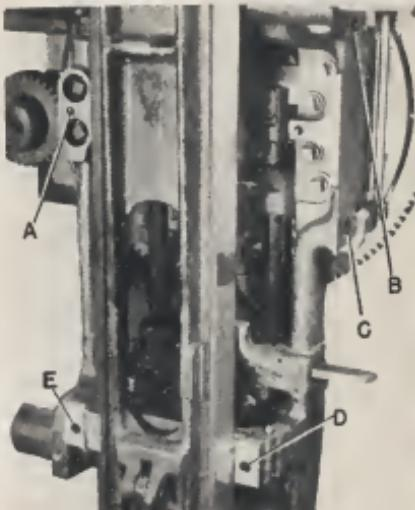

Fig. 1—Stripped machine ready for attachment of Corrector.
Note carefully the position of the lower left-hand elevator slide gib in machines where the right-hand gib is not doweled to the frame, in order not to disturb the adjustment of the elevator slide. Then remove galley, galley brackets, knife block, duplex rail recasting lever, slug stacking arm and pawl and entire knife wiper mechanism, including block and roller on elevator slide where used. Clean gibs and all attachment surfaces indicated by arrows (A), (B), (C), (D), (E), Fig. 1.
Note thickness of the gibs. On Linotypes and some models of Intertypes, the lower gibs are $\frac{3}{8}$ in. thick. In other Intertypes the gibs are $\frac{1}{2}$ in. thick. For use with $\frac{3}{8}$ in. gibs two shims are furnished with each Corrector. Hang the right-hand shim (if required) on the right-hand gib in position over the screw hole at point (D) as shown in Fig. 1. Lift Corrector into position, inserting one of the $\frac{1}{2}$ in. bolts through the frame and into threaded hole in vise at point (C), screwing in part way with the fingers to steady the Corrector while other screws are being inserted. Insert screw in point (A). Insert screw at point (D). Then put gib (and shim if required) in position at point (E) and insert screw.